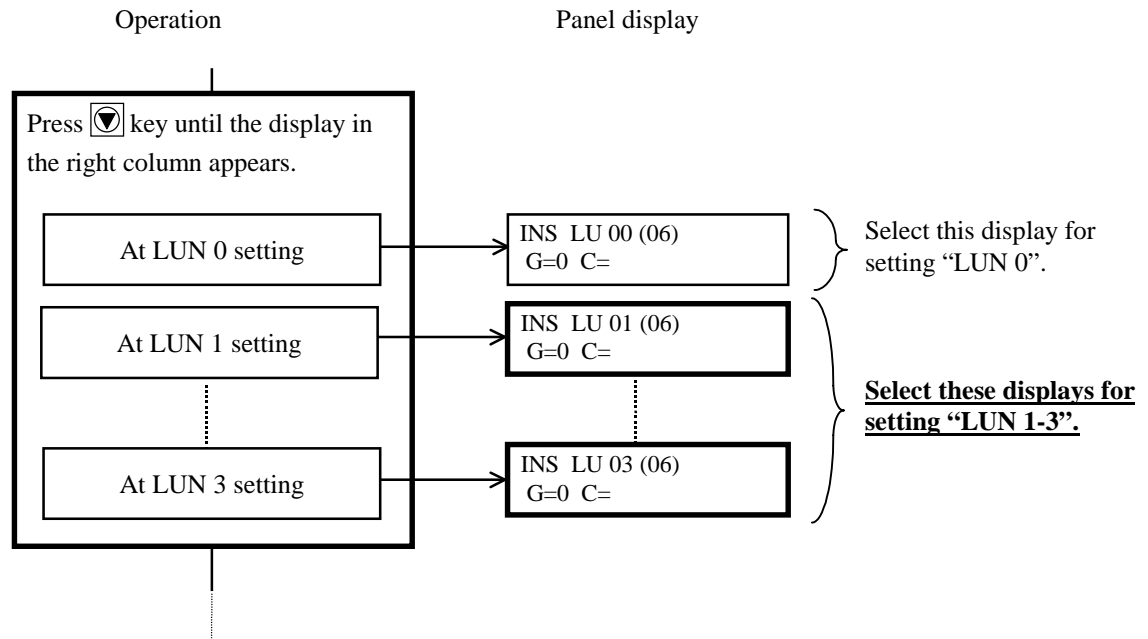

Figure 6.2.6-④ Selecting "LUN 1-3"
(i) The difference in the selecting operation for LUN 1, 2, 3 is shown in Figure 6.2.6-④.